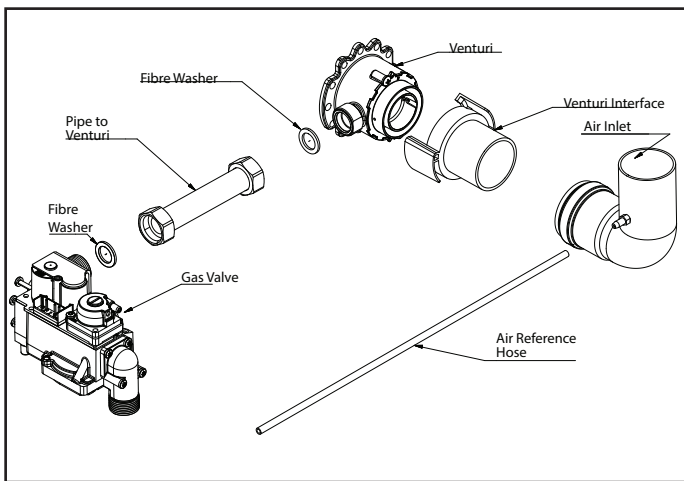

Figure 4 Instinct Solo 110 Gas Train
**There are gaskets at both ends of the gas valve to venturi pipe. These gaskets must be reinstalled with the pipe. Refer to Figures 4, 5 & 6 for relevant boiler models. Do not cause damage to the gaskets.**
4. Use a 10 mm socket and ratchet to remove the three (3) bolts that attach the venturi to the fan assembly. Remove the venturi from the fan assembly. When you remove the venturi from the fan assembly make sure that you do not cause damage to the O-ring gasket on the blower.